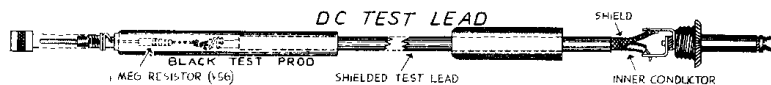

Fig. 13
- (*) DC test lead. The DC test lead is made by connecting the phone plug (V41) on one end of the shielded test lead (V47). On the other end goes a small 1 megohm resistor (V56), which is then slipped inside the black test prod. See Figure 13.